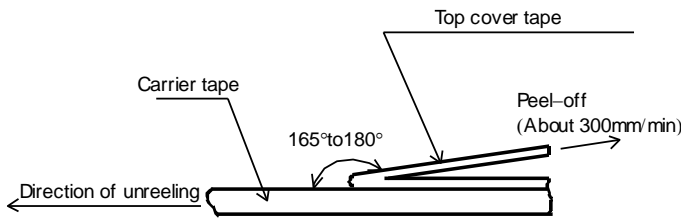
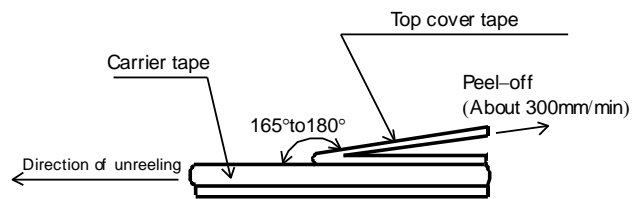

Figure-6
Figure-7
- 5). The peel strength of the top cover tape shall be with in 0.1N to 0.5N on the test method as shown in the following RNC06: Figure-6, RNC20, 32: Figure-7.